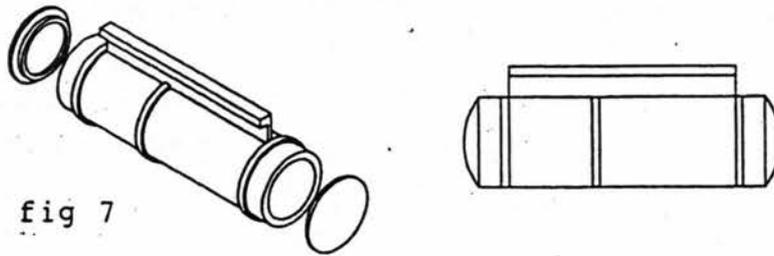

fig 7
21. If you are building a gas fitted vehicle assemble the gas cylinders as shown in figure 7 and fix to the floor. The correct locations are shown in figure 8.